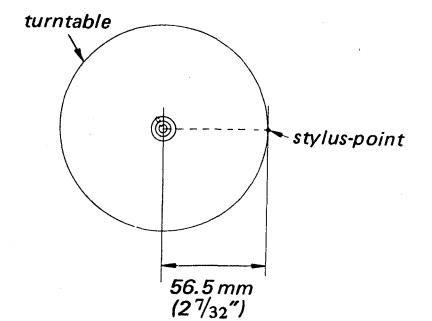

Fig. 3-5
4. Set the position of the stylus as shown in Fig. 3-5 and t screw so that the VOM reads 4.4 V dc.